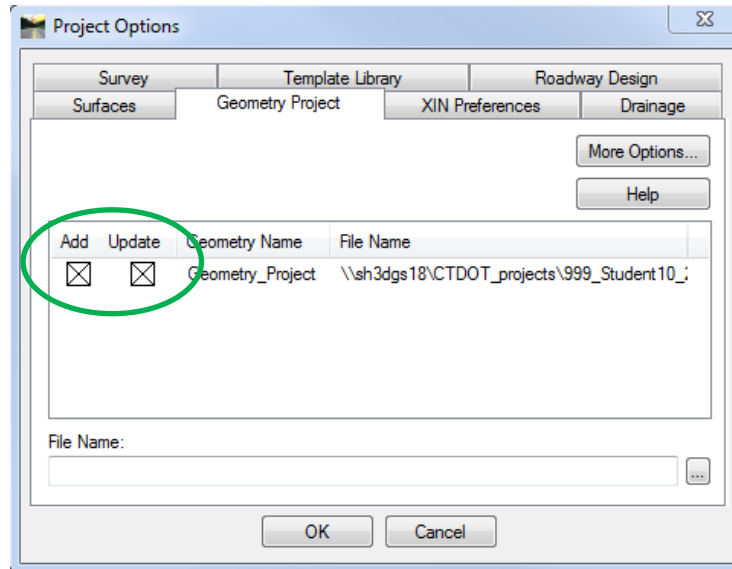

Figure 1-9 InRoads Project Options Dialog Box
- L. Save files in the RWK (Project) file. Click to **File > Save As** on the InRoads Menu Bar. In the Save As box select Projects (*.rwk) from the pull down for Save as type: . Click the **Options...** button on the lower right corner of the Save As dialog box. The Project Options dialog box (Figure 1-9) will appear. Check **Add** and **Update** and click on each file under file name for all the files listed under each tab. When the Surfaces tab appears, only click on **Add** for the Existing surface only. (Proposed surfaces will be created later in the design process. These files will need to be checked off under Add and Update columns).